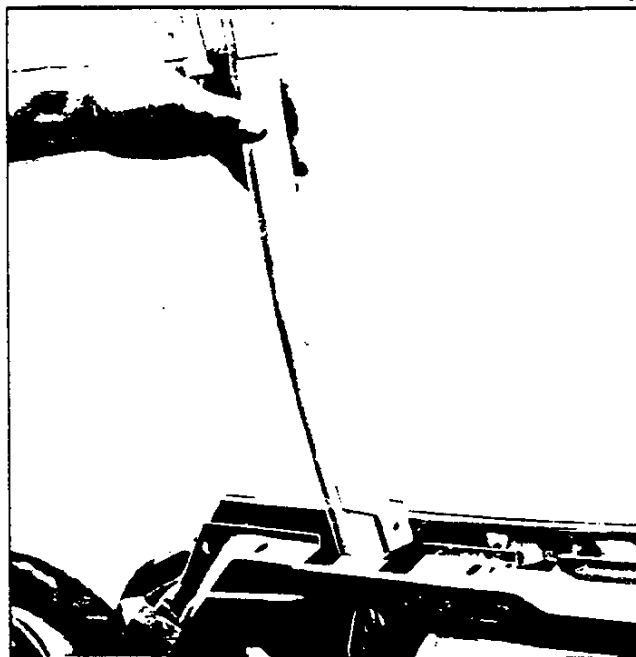

Fig. 31—Removing Front Glass Channel
- Remove retaining screw at lower end of channel and two (2) screws retaining channel to top surface of door inner panel.
- Remove two (2) screws retaining stationary horizontal guide channel.
- Carefully lift channel through upper slot as shown in Figure 31 making certain to clear opening.